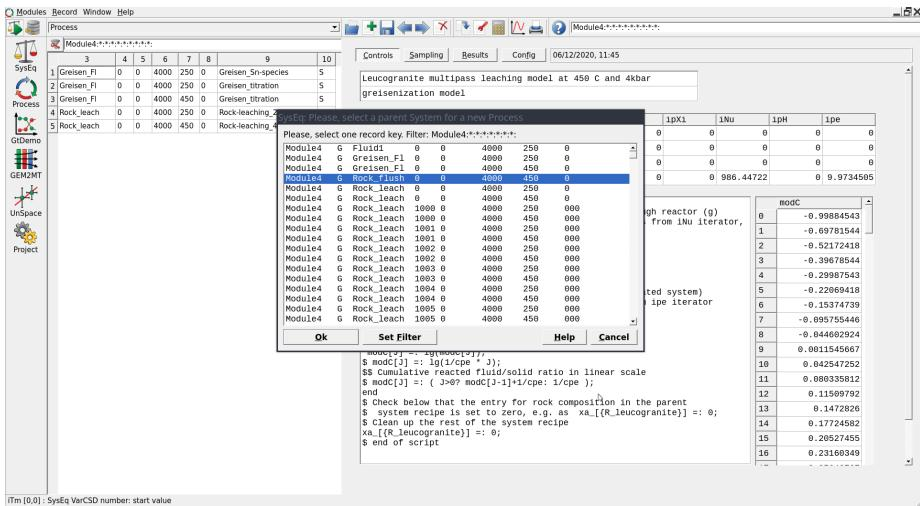

Figure 4.15: Select the parent record Rock\_flush to create a new Process simulation by cloning on of the previously created Rock\_leaching records.
- Switch to **Process** simulation and clone one of the "Rock-leaching" models by electing your parent record "Rock\flush" created previously at 450 °C and 4 kbar (Fig. 4.15).